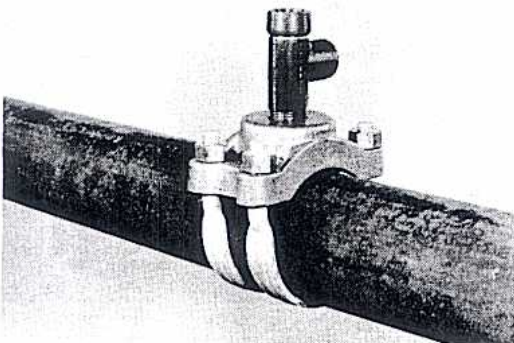

FIGURE 5
- 3b. For Tees having an outside I.P. thread inlet. Attach Service Clamp at the desired position. Apply non-hardening pipe thread "dope" to the inlet threads of the tee and screw it into the body of the Service Clamp. FIGURE 5.